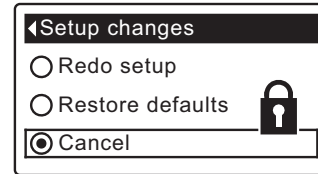

FIG. 25
8. Press the RIGHT (►) button. A flashing padlock icon will appear, as shown in Figure 25.
- 1-7. Go to the **Setup changes** screen (Figure 25) by following Steps 1-7 at left.